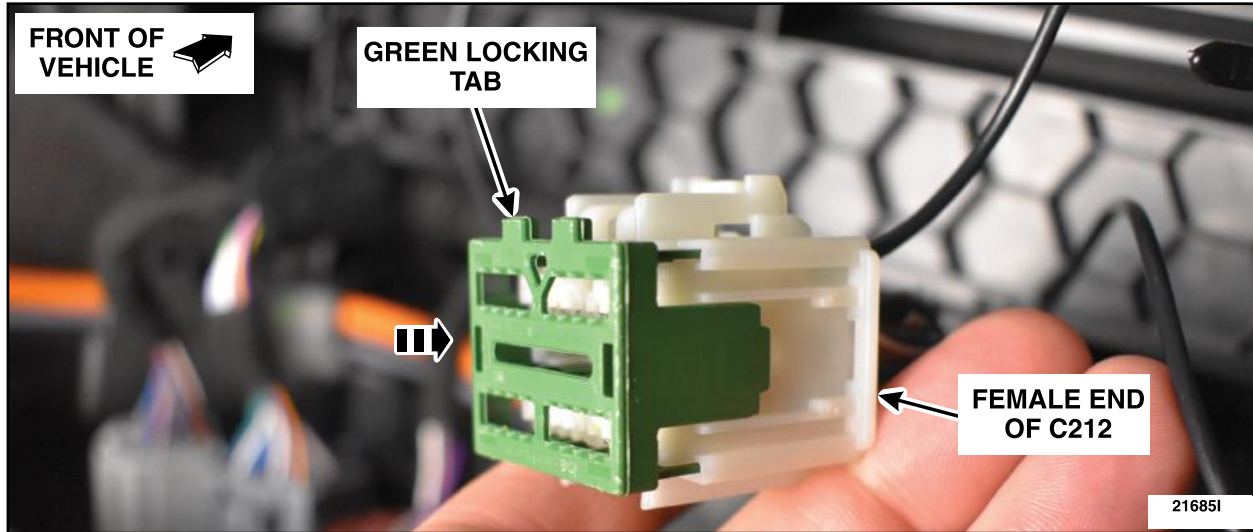

FIGURE 8
12. Install the green locking tab into the female end of C212. See Figure 8.